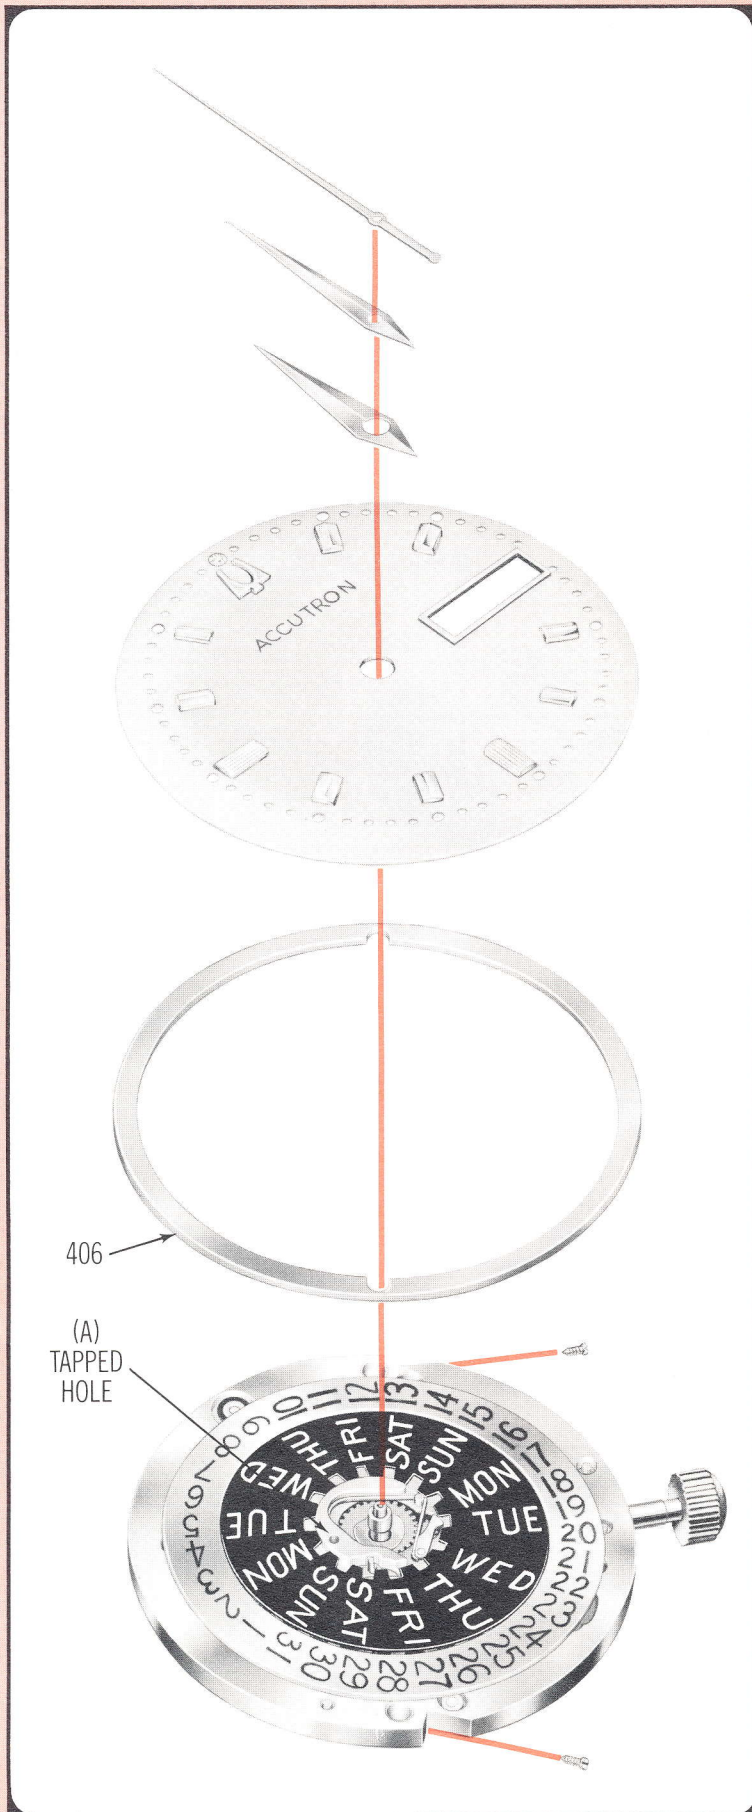

Fig. 46
- 406** Dial Support Ring (see Fig. 46)